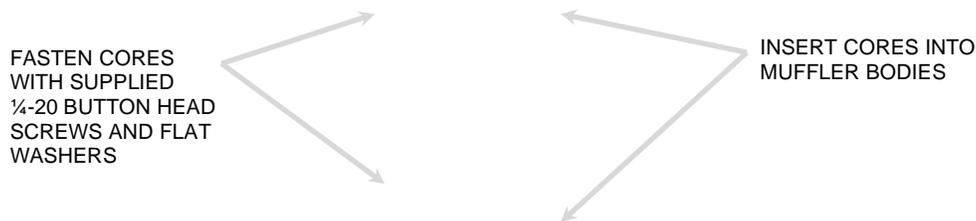

FIGURE 4
14. Insert the cores into the muffler bodies and align the threaded hole in the core tip with the hole in the heatshield and muffler body. See **FIGURE 4**. (NOTE: If it is difficult to align the heatshield, muffler body, and core then loosen the clamps on the heatshields so the heatshields can move forward or backward.)
15. Insert the supplied 1/4-20 button head screws and 1/4" flat washers through the heatshield and muffler body into the threaded hole in the core tips and snug the screws. Do not tighten at this time. See **FIGURE 4**.